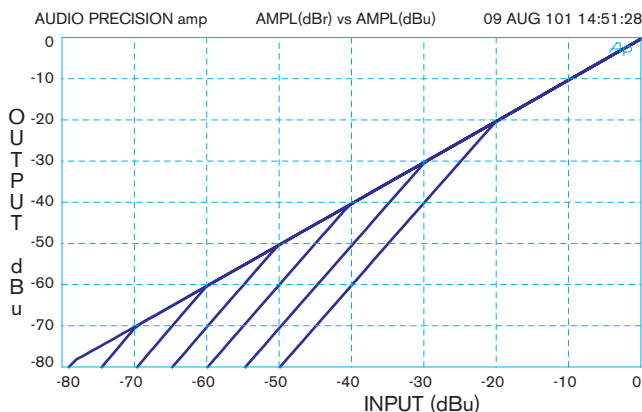

Figure 1. With a fixed Ratio set to 2:1, this graph shows gain reduction below various Gate Thresholds at -20 dBu, -30 dBu, -40 dBu, etc.
**COMPRESSOR THRESHOLD control** sets the point at which the Input signal level causes the Compressor to become active. See Figure 1 on page Manual-4.
*The threshold is the point at which gain adjustment begins.* When the input signal is below the threshold, the Compressor section acts like a straight wire. When the signal is loud enough to cross the Compressor Threshold, the compressor is active and turns the volume down. Various Threshold points are illustrated in Figure 1. How *much* it gets turned down is determined by the RATIO control ( Figure 1 shows a Ratio set at 2:1).